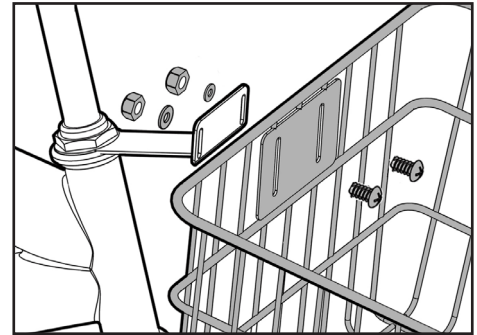
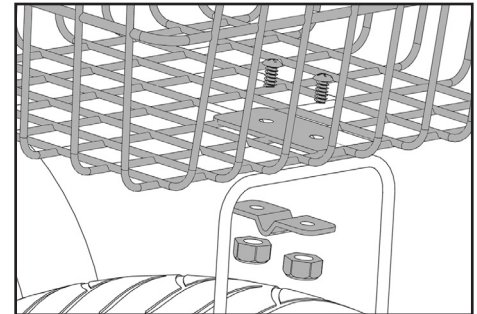

Figure 38
Figure 39
To install the basket onto the front of your bicycle, first you must remove the stem and handlebars from your bicycle. Use the appropriate (C) Allen Wrench to loosen the stem bolt on the stem, being careful not to unscrew the stem wedge completely from the stem bolt. Once it is loose enough, remove the stem and handlebars by pulling the stem up and out of the headset tube. Then, use the (E) Standard Slip Joint Pliers to loosen the topmost nut from the headset. Place the stem basket mount around the steer tube, then replace the topmost headset knut, and tighten it with the (E) Standard Slip Joint Pliers. Reinsert the stem and handlebars, line them up correctly with the tire, and retighten the stem bolt. Now, line up the slots on the basket with the slots on the basket mount, insert the basket mount bolts, slide a washer and locknut onto the bolts, and tighten the nut and bolt using the (E) Standard Slip Joint Pliers and (C) Allen Wrench (see Figure 38).
Then, you must install the dropout basket mount. Line up the eyelets on the mount with the appropriate holes (see Figure 38), and insert and tighten the provided bolts to secure the mount to the drop outs. Place the mount bracket around the dropout basket mount, line it up with the holes in the bottom of the basket, and insert the provided bolts through the holes in the basket and the bracket, and fasten a locknut on the bolt on the underside of the basket (see Figure 39).